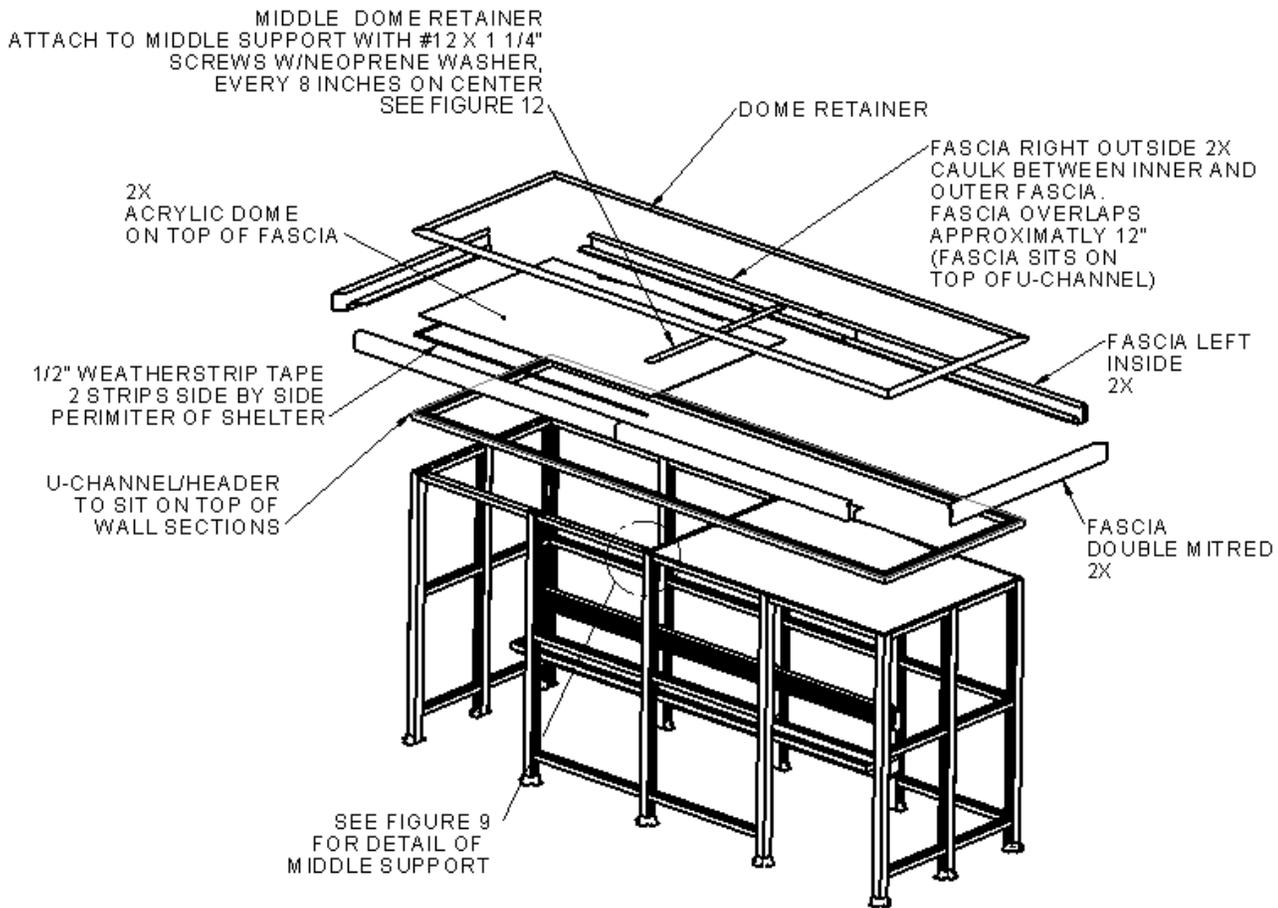

Figure 2
CAUTION: AS YOU ASSEMBLE THE SEQUENTIALLY NUMBERED PANELS BE SURE THE PANELS CREATE THE SHELTER ASSEMBLY PATTERN IN FIGURE 2 BELOW. OPENING(S) MAY DIFFER FROM MODEL SHOWN. CHECK INSTALL LAYOUT.